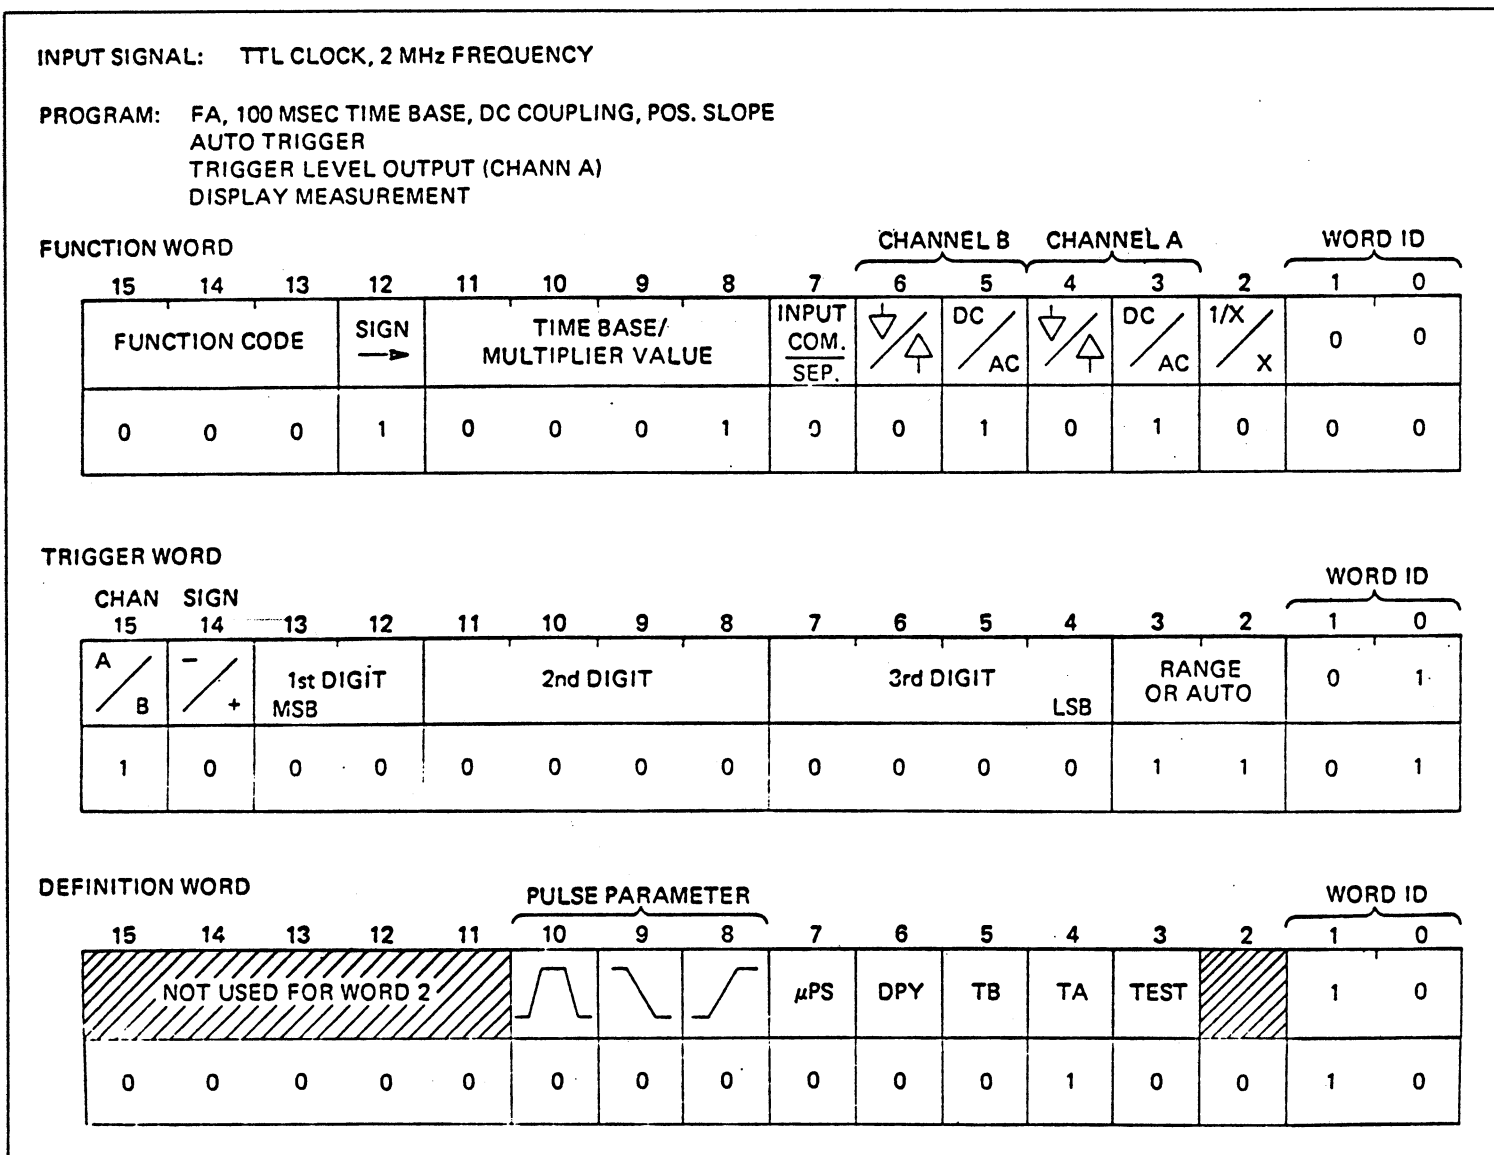

Figure 3.23 - Command Word Sequence Example
3.4.2.1 All computer instructions or commands are transmitted to the counter via the 16-bit data bus regardless of the measurement format selected. The purpose, function, and format of these command words are presented in Figures 3.17 through 3.21. An example of a command word sequence is illustrated in Figure 3.23. The length of the command sequence and number of words is variable depending upon the operation to be programmed.